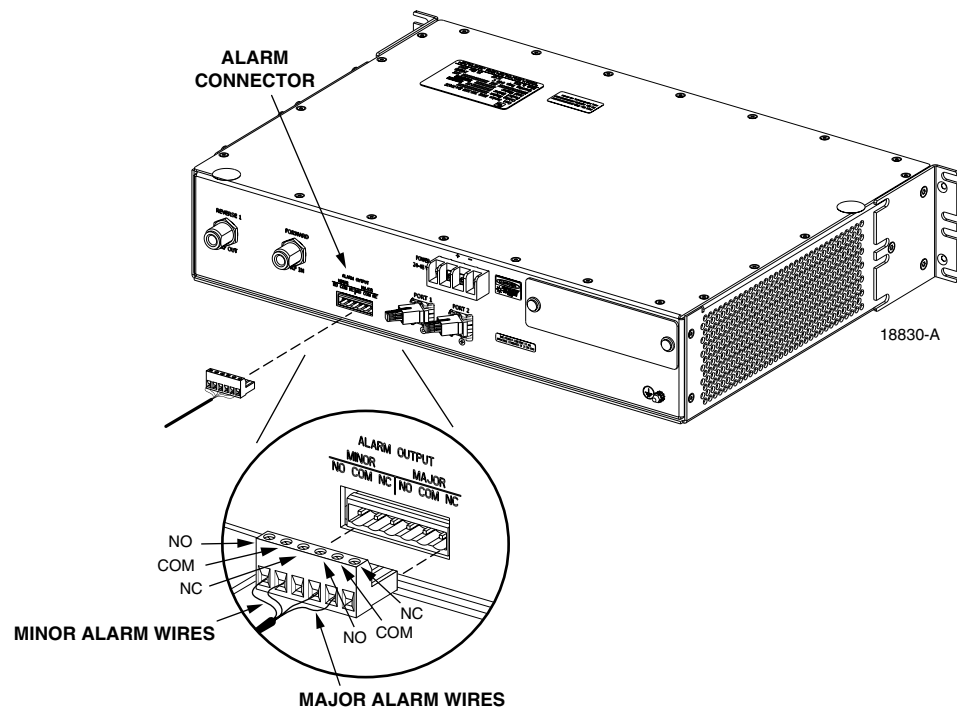

Figure 3-12. External Alarm System Connections
4. Connect the Major alarm wire pair to the MAJOR COM/NC or MAJOR COM/NO terminals (whichever is required by the external alarm system) on the HU alarm terminal connector (supplied with HU) as shown in Figure 3-12.
5. Connect the Minor alarm wire pair to the MINOR COM/NC or MINOR COM/NO terminals (whichever is required by the external alarm system) on the HU alarm terminal connector (see Figure 3-12).